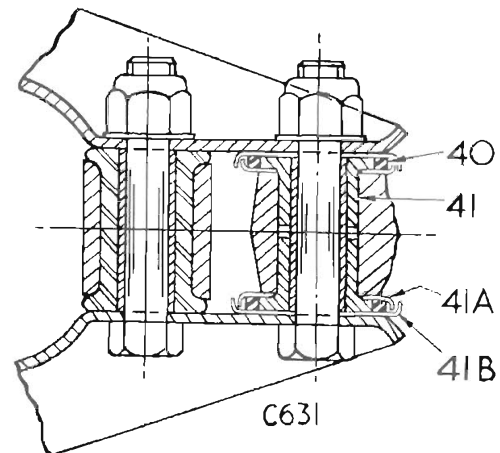

Fig. 18. Cross section of lower wishbone attachments to lower trunnion and damper/spring unit
5. Fit the washers (41B) and insert bronze trunnion (42) between the outer ends of the lower wishbone (35); retain in position with the bolt (46), washer (38) and nyloc nut (37). (Fig. 18).